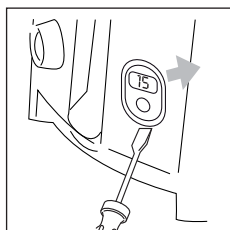

fig. 5
- Remove the minute timer from its housing by prising it from the lower side (fig. 5).